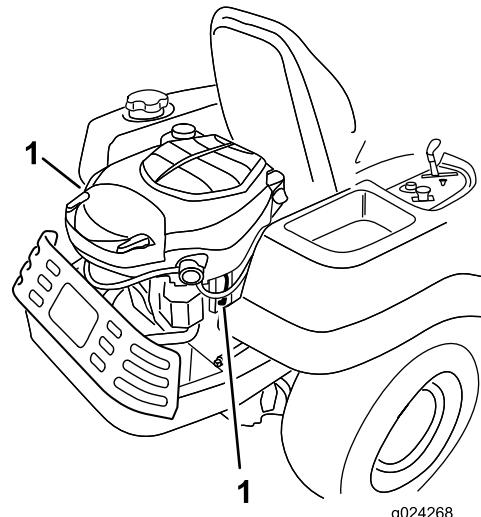

Figure 32
- Pull the wire off the spark plug(s) (Figure 32).
3. Push the wire onto the spark plug (Figure 32).